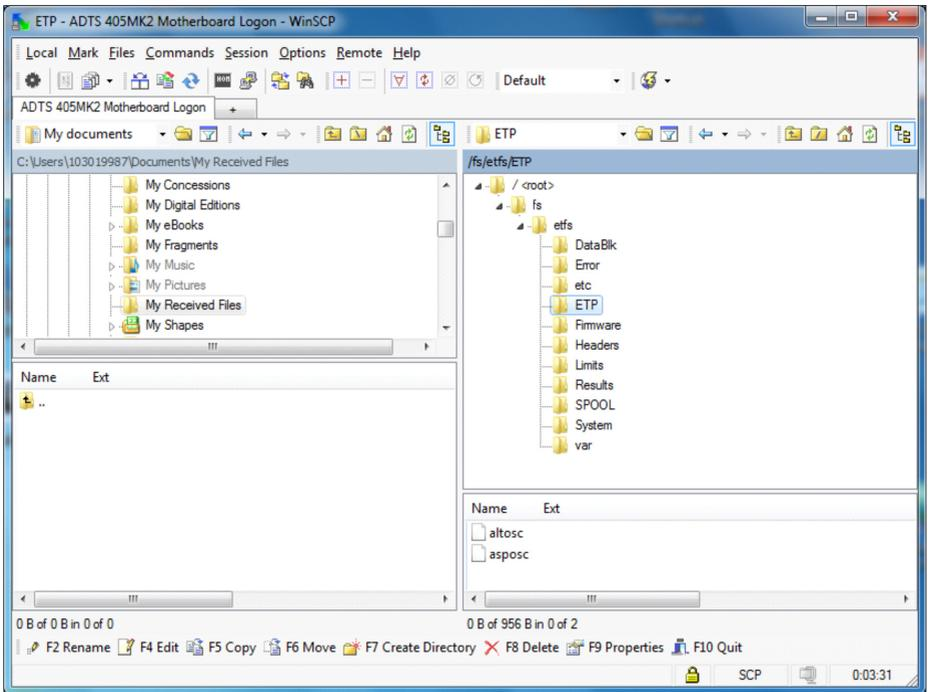

Figure 4-11: ADTS File System Directories Screen
- c. The ADTS 405 Mk2 file system directories (under folder fs\etfs) are visible in the right hand pane as shown in Figure 4-11 file system directories screen below: